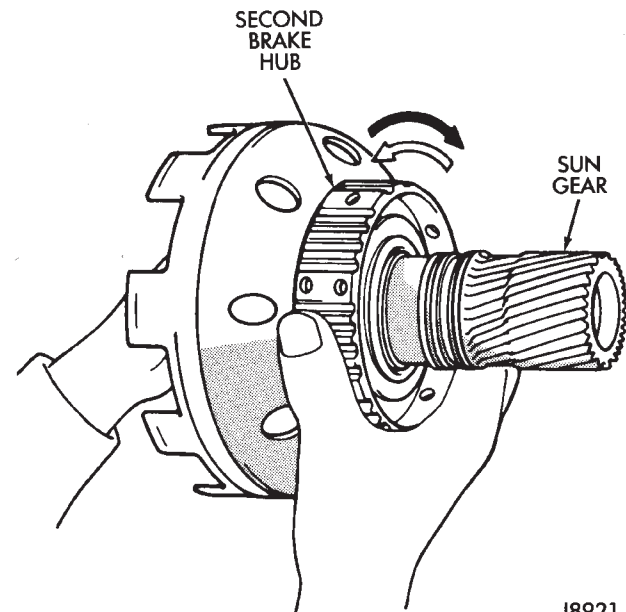

Fig. 2 Checking One-Way Clutch Operation
(1) Hold sun gear and turn second brake hub clockwise and counterclockwise (Fig. 2). Hub should rotate freely clockwise but lock when turned counterclockwise. Replace one-way clutch and hub if they do not operate properly.